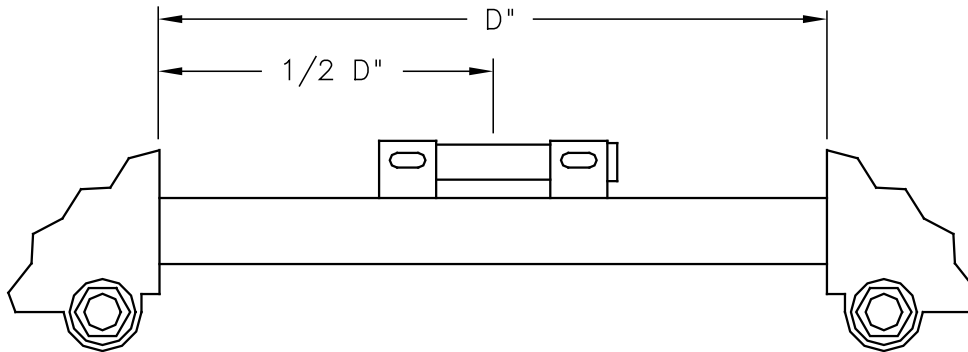

Figure 2.4 –A: Trunnion Mounting Location
1. Measure and mark the center of the trunnion tube side to side, (see Figure 2.4-A).